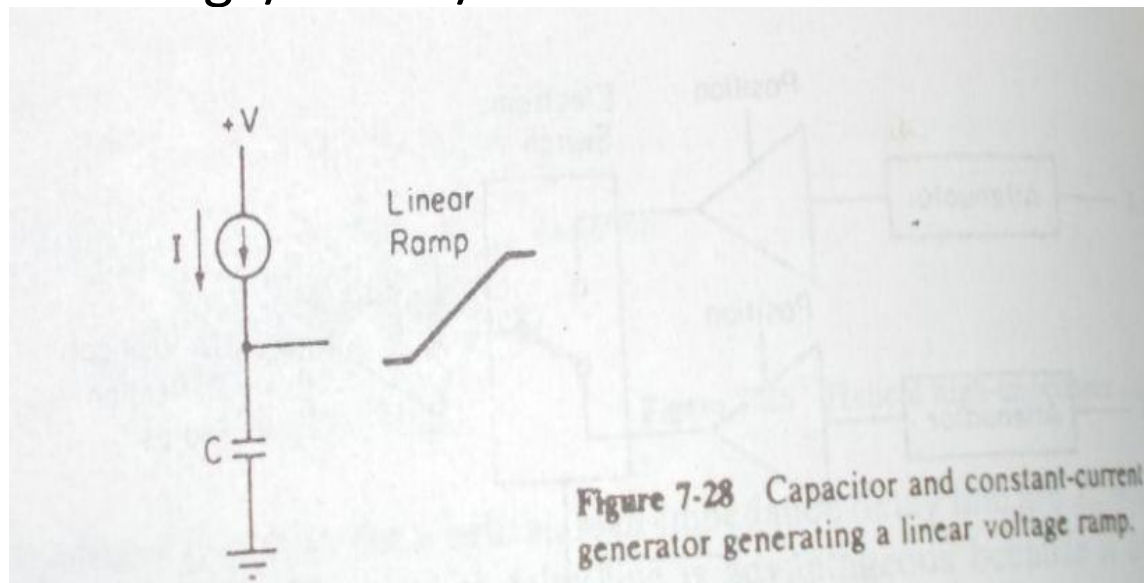

Figure 7-28 Capacitor and constant-current generator generating a linear voltage ramp.
- The **sweep generator** uses the charging characteristics of a capacitor to generate linear rise time voltages to feed to the horizontal amplifier. Fig 7-28 shows a capacitor being charged from a constant current source. The rate of voltage rise is given as